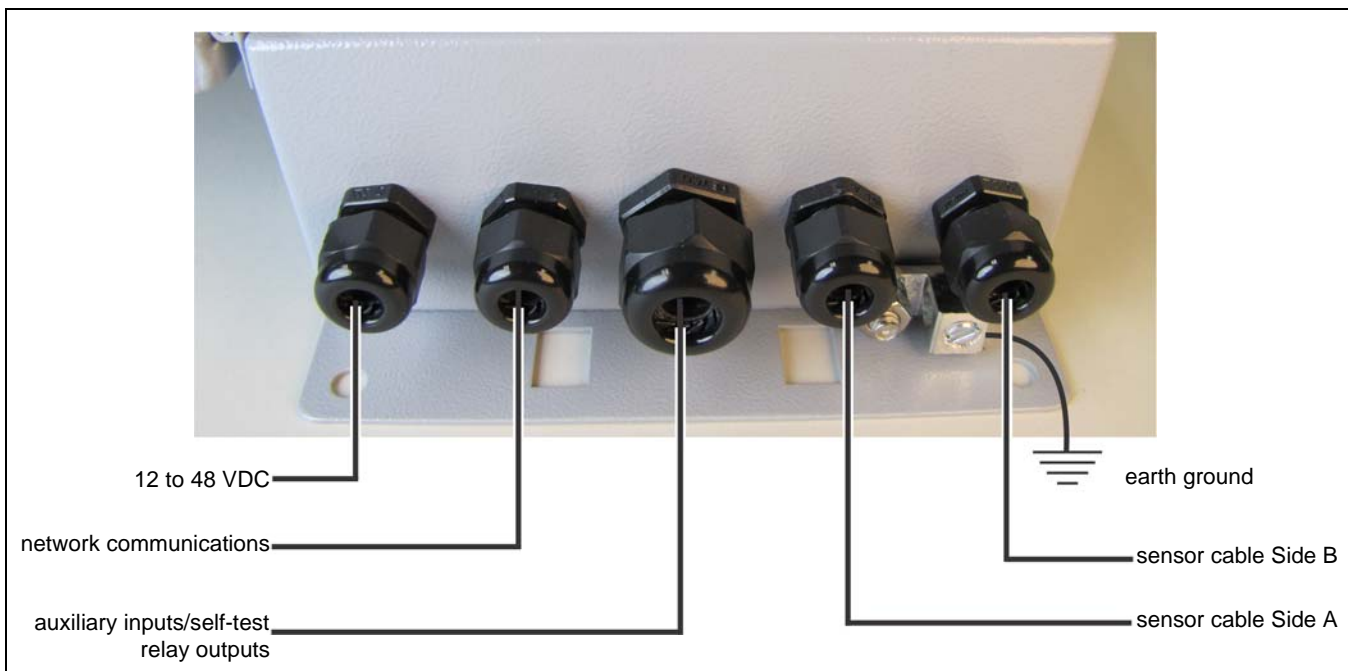

Figure 60: Cable entry recommendations
1. Remove the two 3/8 in. sensor cable glands from the enclosure's right side (see Figure 60:).